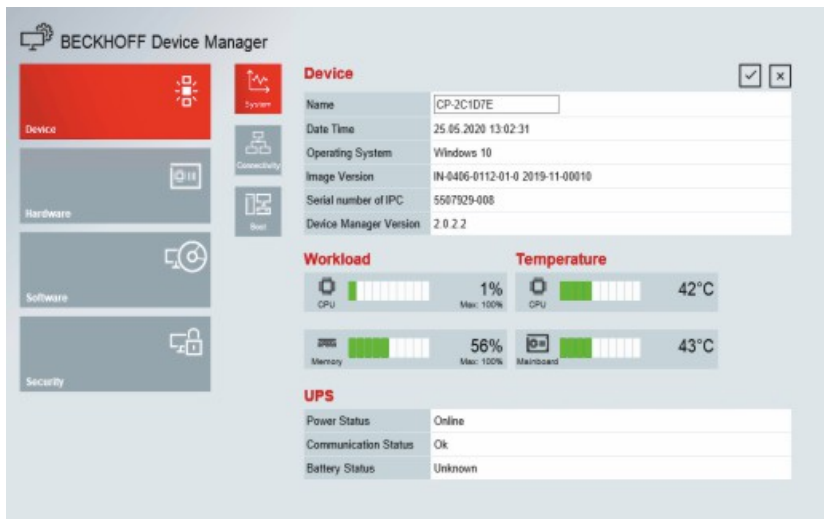

Fig. 21: Beckhoff Device Manager – Start page
2. Lift the PC far enough so that the fastening screws slip into the keyholes (see fig. 21).